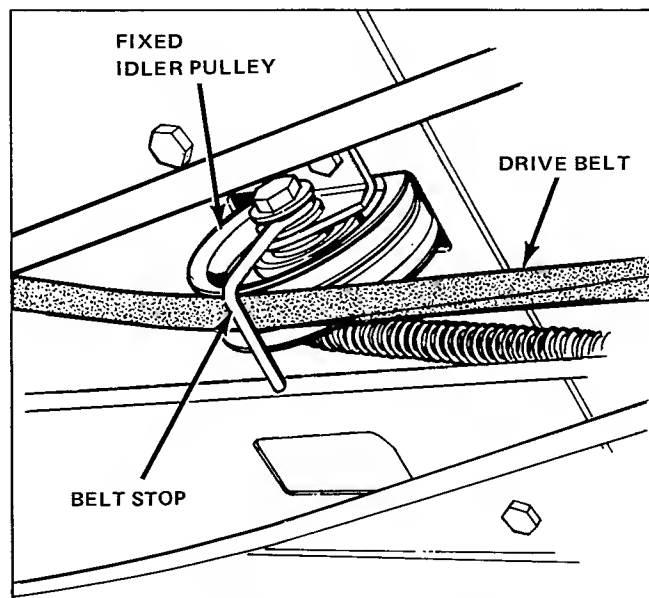

Figure 26. Drive Belt Replacement
2. With the parking brake already engaged, loosen the belt stop on the fixed idler pulley (see figure 26). Remove belt from the fixed idler pulley.
5. Install the new belt. Adjust the engine pulley belt stops according to the Adjustment Section instructions. Adjust the fixed idler pulley belt stop so it is facing straight downward on the pulley (see figure 26).